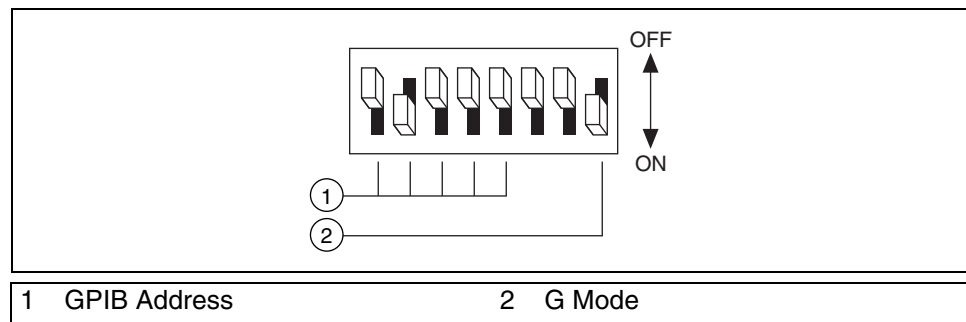

Figure 9-4. GPIB Configuration Settings for the NI Instrument Simulator
- Set the left bank of switches on the side of the box to match Figure 9-4.